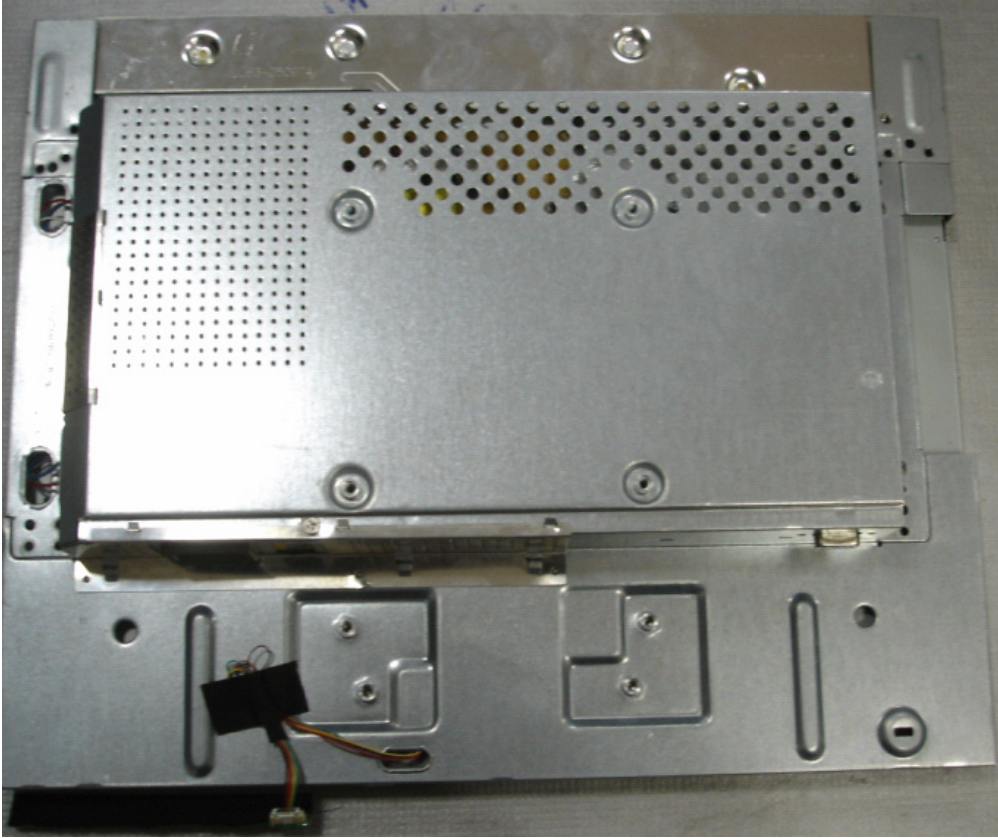

Fig 3
3. Remove the back cover and bezel. (Fig 3)